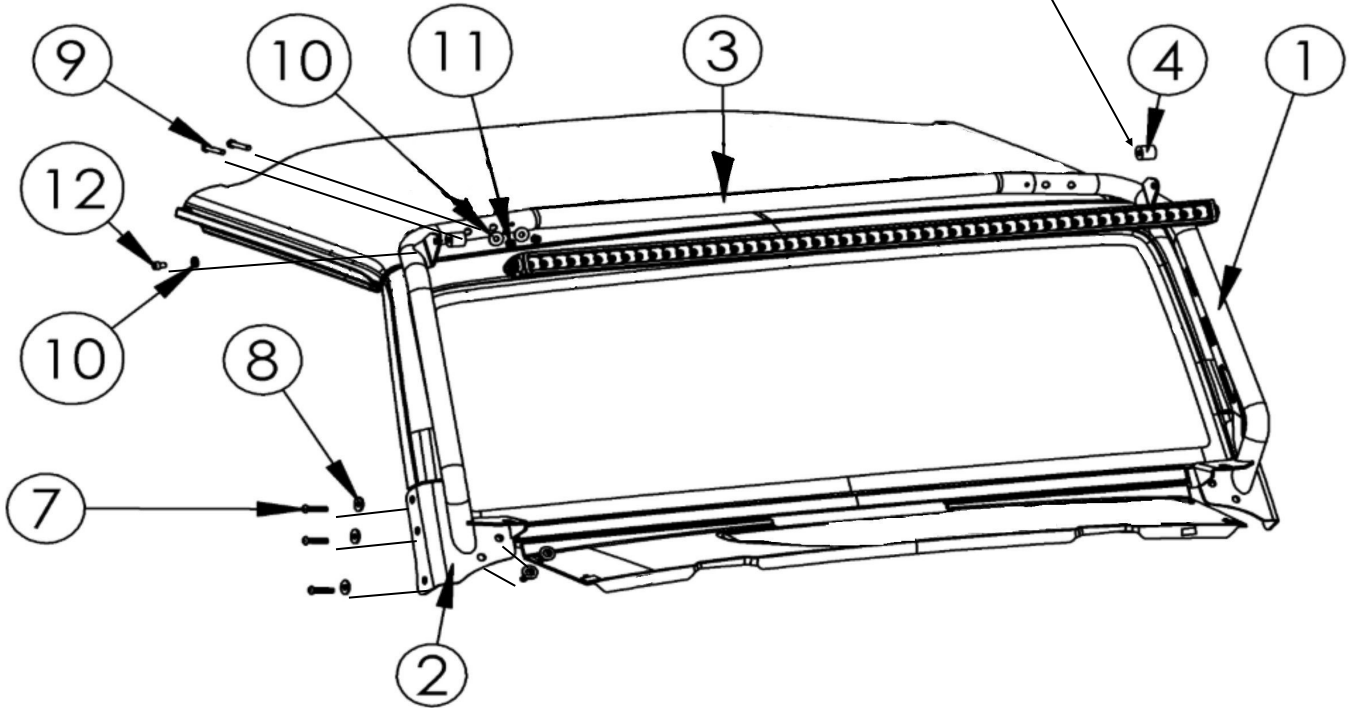

Figure 4
4. Align the five holes of the hoop assembly base with the corresponding holes on the A-pillar. Loosely attach the hoop assembly using (5) M8 hex socket button head screws and (5) M8 cup washers. **See Figure 4.** Do not fully tighten at this time.
**Note: Placing the threaded ends of the screws toward the front of the vehicle will aid in future top removal.** Secure the hoop center bar to the driver hoop assembly using (2) M8 hex socket button head screws, (2) M8 split lock washers, and (2) M8 hex nuts. **See Figure 4.**